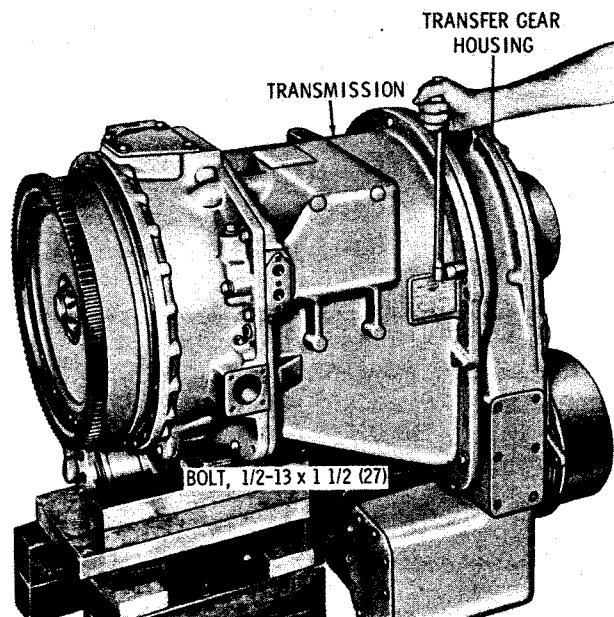

Fig. 7-52. Installing transmission-to-transfer gear housing bolts
(8) Install several of the twenty-seven 1/2-13 x 1 1/2-inch bolts, with lock washers, to retain the transmission. Block the transmission securely to support it, and remove the hoist and sling (fig. 7-52).